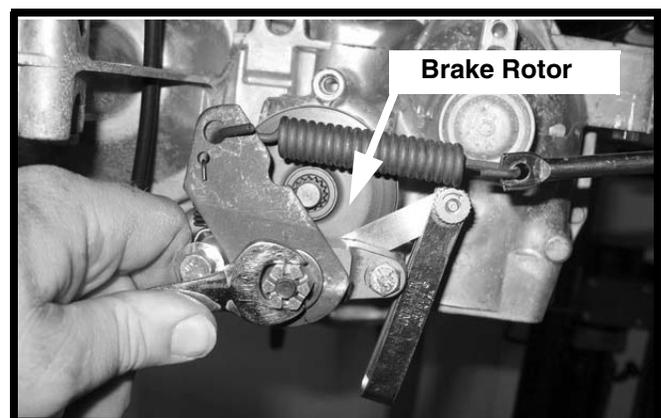

FIGURE 3
9. Insert a .030" (0.8mm) feeler gauge between the brake rotor & the outboard brake puck. See Figure 3.